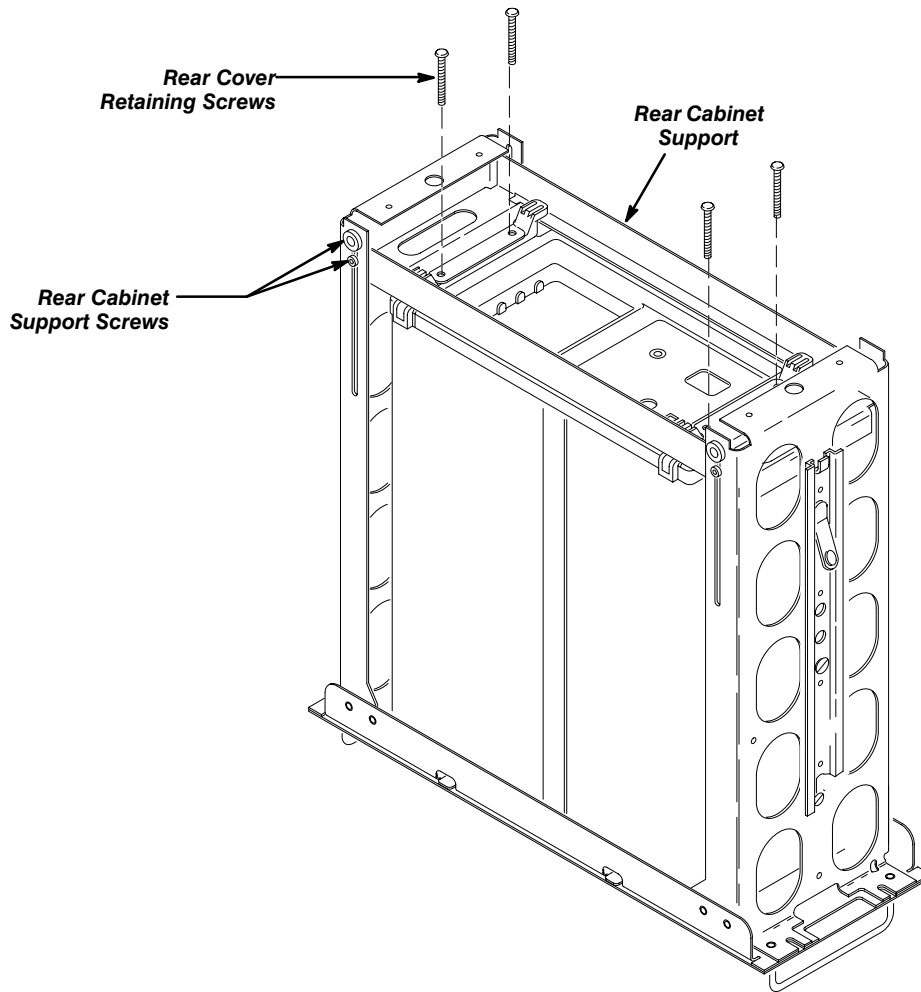

Figure 12: Secure the Instrument to the Rack Adapter
- b. Slide the rack adapter rear support (along with the instrument rear cover and cabinet) against the instrument chassis, being careful not to push the instrument forward. See Figure 12.
- e. Tighten the four support screws with lock washers and the rear cabinet support screws with nylon washers loosened in Step 1b. See Figure 12.